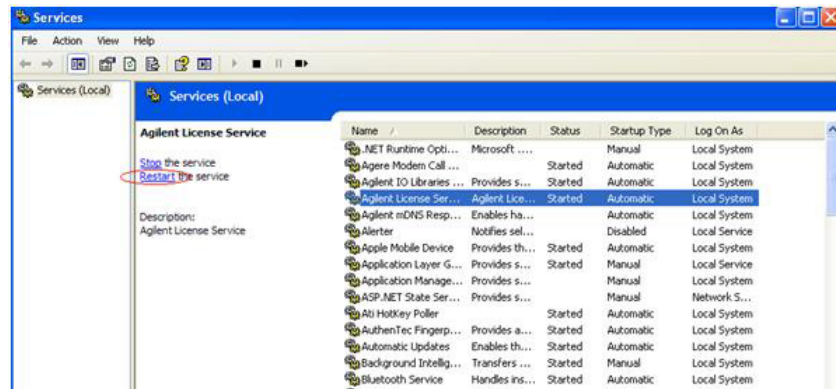

Figure 20 Services
- 3 Select **Keysight License Service**, and click **Restart** as shown in **Figure 20**.